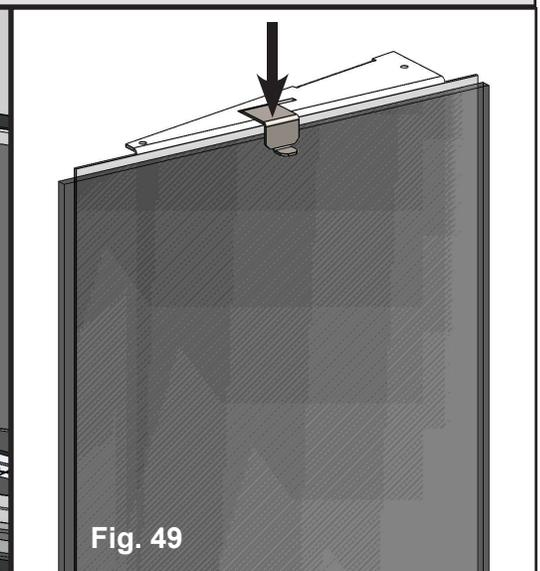

Fig. 49
3. Insert the side glass clips to hold the side glass in place. **(Fig. 49)**